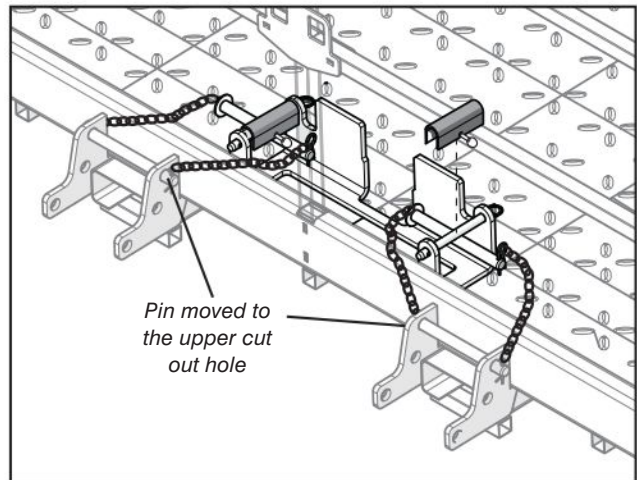

Figure 51 Auxiliary Function Locking Devices
7. Secure the locking device to the Personnel Work Platform as shown in figure 51 when the platform is not in use.